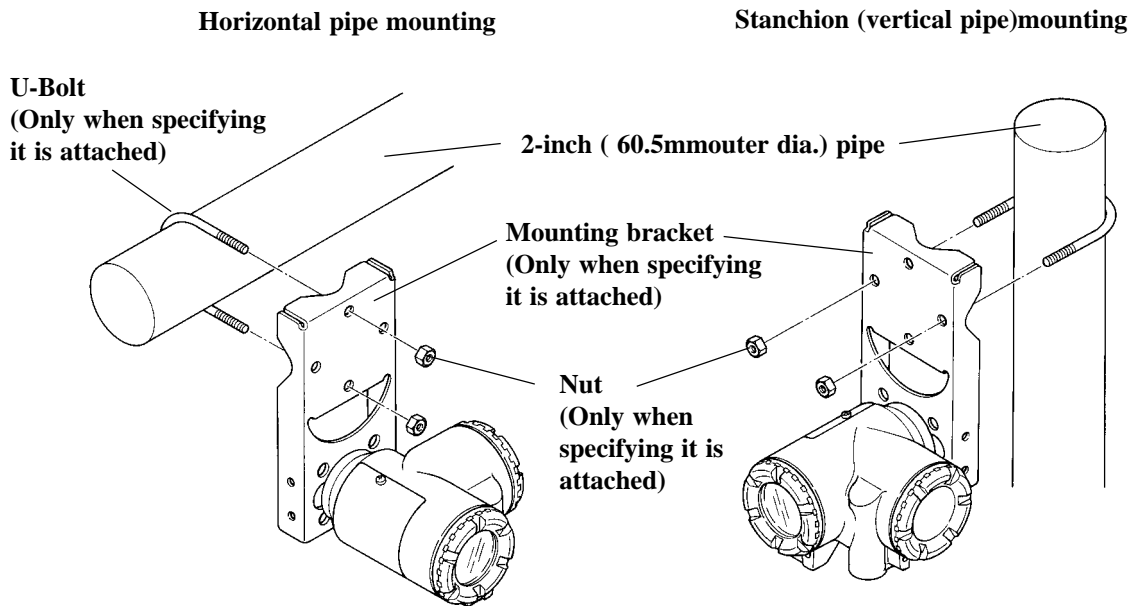

Figure 4.3 Mounting remote type converter
- The indicator/totalizer component of ULTRA YEWFO can be turned 90° either clockwise or counterclockwise. For example, you can install ULTRA YEWFO on a vertical pipe, as shown in Figure 4.3, by removing the component and then repositioning the joint pin (see Subsection 8.3.1).